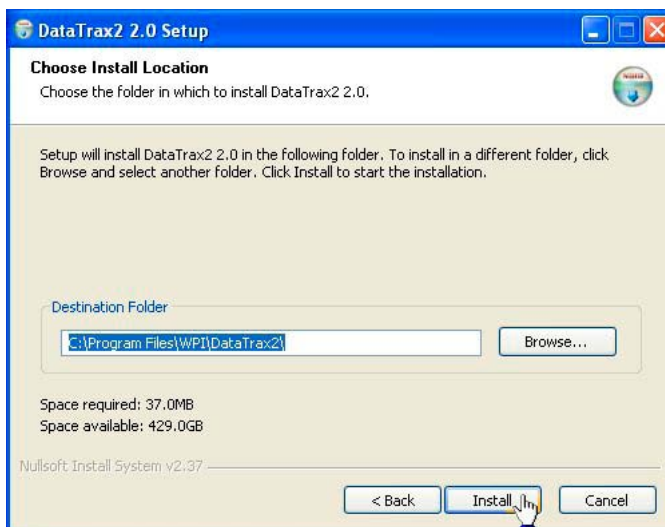

Fig. 21 — Install location
4. Verify that all three components (Main Section, Lab Experiments, and Drivers) are selected, and click the **Next** button. The wizard will ask where to install the program files (**Fig. 21**).